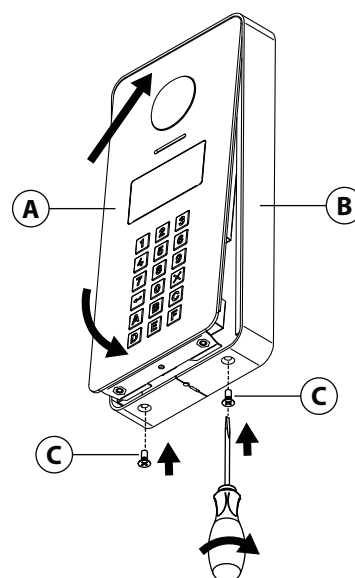

Fig. 5
5. Insert the top end of the panel (A) first, then level down and fix to the surface box (B) with the two screws (C) (Fig. 5).